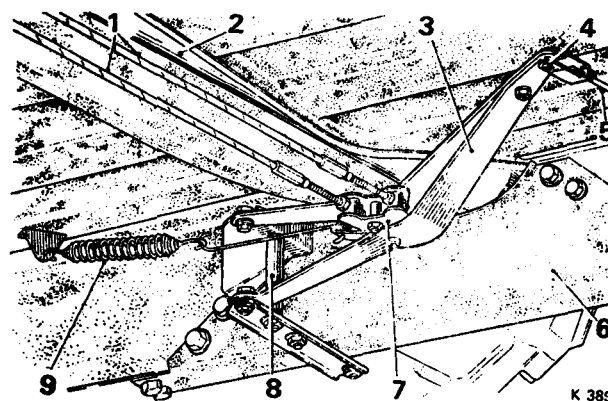

FIG. F3 HAND BRAKE OPERATING LEVER
4. Unhook the hand brake return spring from the operating lever and unpin and remove the clevis pin from the pivot point in the end of the operating lever (*see Fig. F3*).